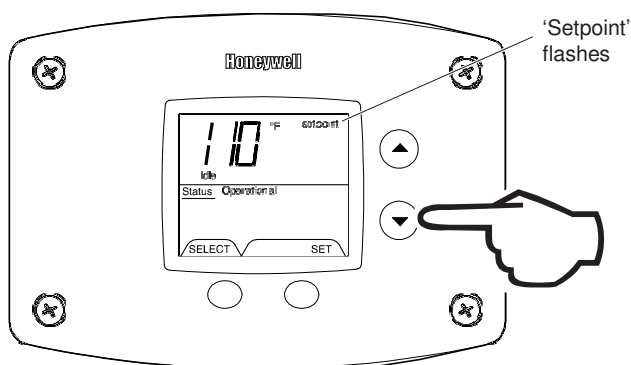

Fig. 17
2. 'Setpoint' indicator begins flashing in the display after pressing 'Temperature Down' button (Fig. 17).